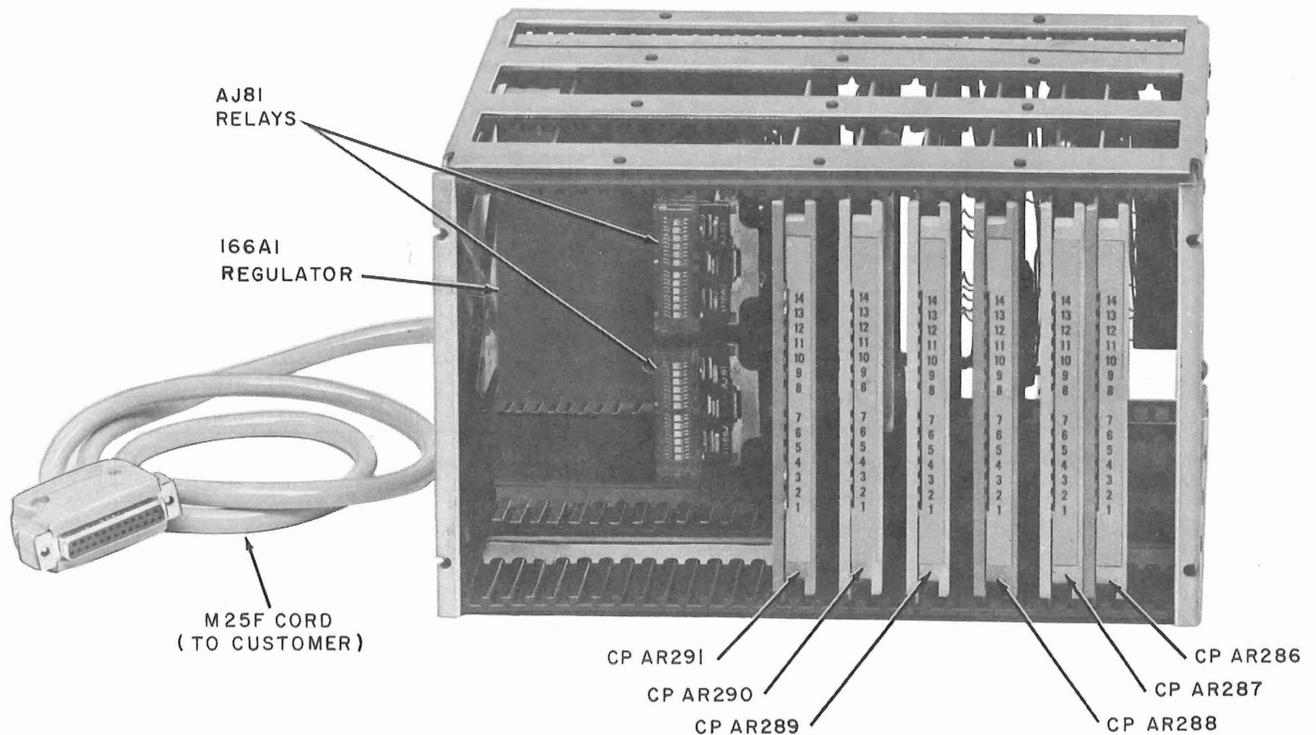

Fig. 4—15A3 Data Unit—Front View Components
2.05 The 15A3 Data Unit (Fig. 4) consists of six circuit packs (CP AR286, CP AR287, CP AR288, CP AR289, CP AR290, CP AR291) plugged into a frame. The frame also contains two AJ81 relays, interconnecting wiring, and a 166A-type regulator which provides well regulated +5V dc for the integrated circuits in the data unit. The